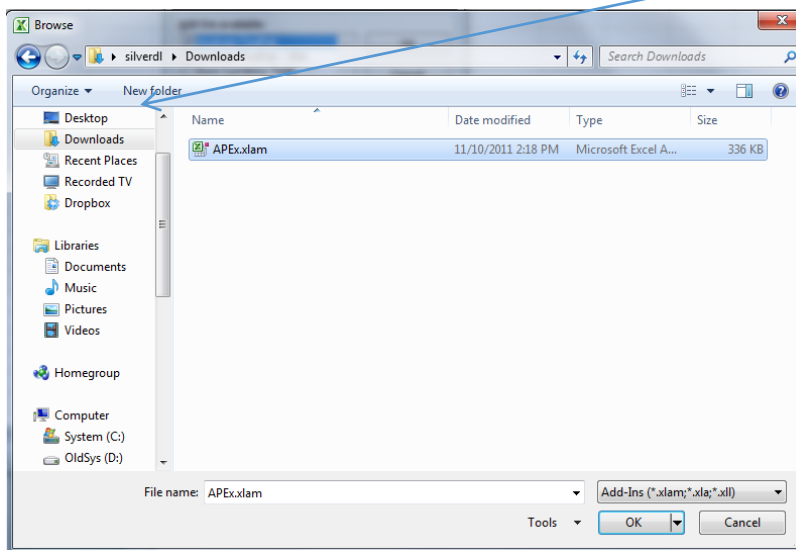

Figure 4
4. Click **Browse**. Navigate to the location to which you downloaded the add-in and select the **APEx.xlam** file (Figure 4). Click **OK**. The default location is the Downloads folder.